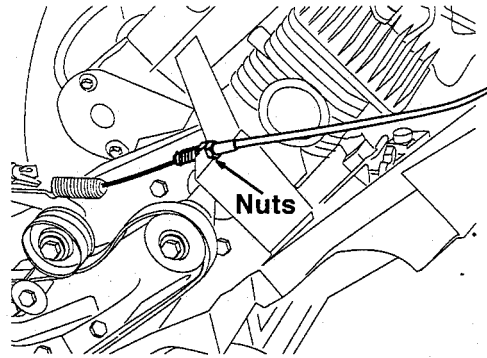

FIGURE 8
5. To reduce or extend the length of the clutch cable, adjust the nuts on the clutch cable. See figure 8. Reducing the cable length will increase idler pulley pressure on the belt.